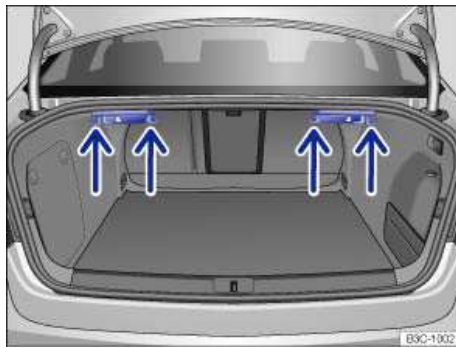

Fig. 100 In the luggage compartment: Shopping bag hooks.
- Hang the bags on the shopping bag hooks as shown in  fig. 100 (arrow).